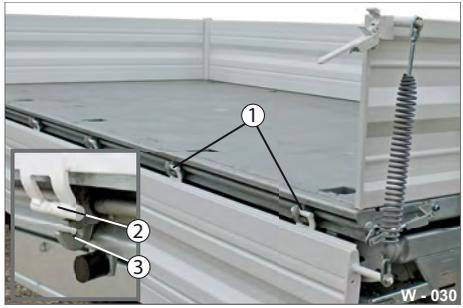

Fig. 30 Side platform gates
- ▶ Clean the lubrication/bearing points (Fig. 30/1) with a clean, dry cloth.
- ▶ Lubricate the lock lugs (Fig. 30/2) and lock hook (Fig. 30/3).